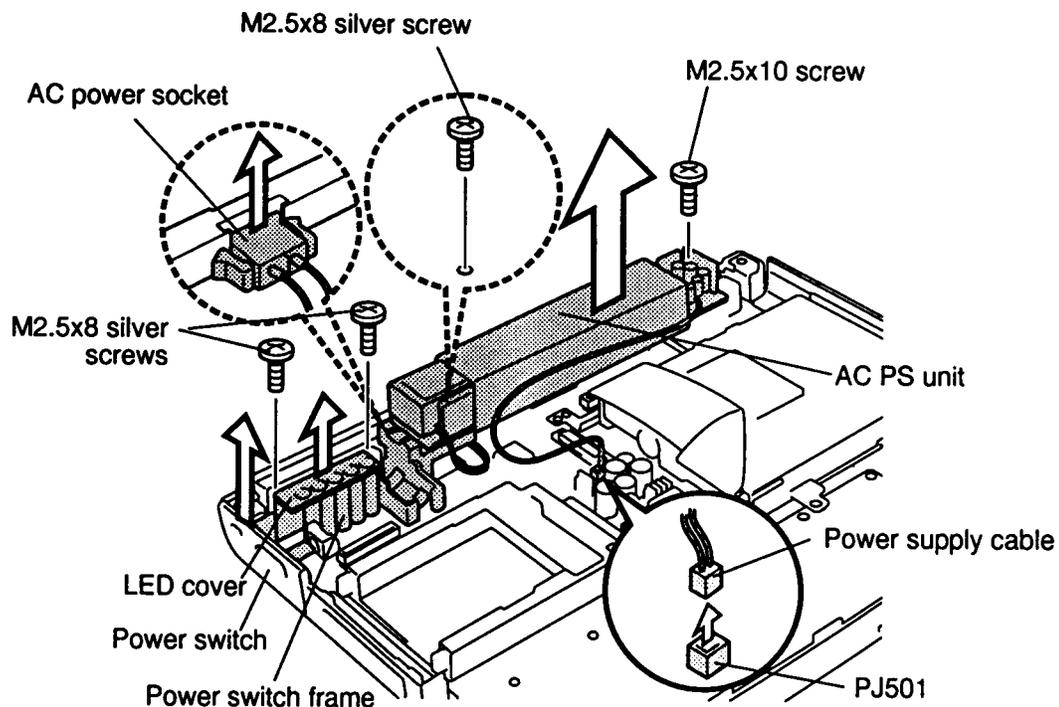

Figure 4-19 Removing the AC PS unit
To remove the AC Power Supply (PS) unit, follow the steps below and refer to Figure 4-19.
To install the AC PS unit, follow the steps below and refer to Figure 4-19.